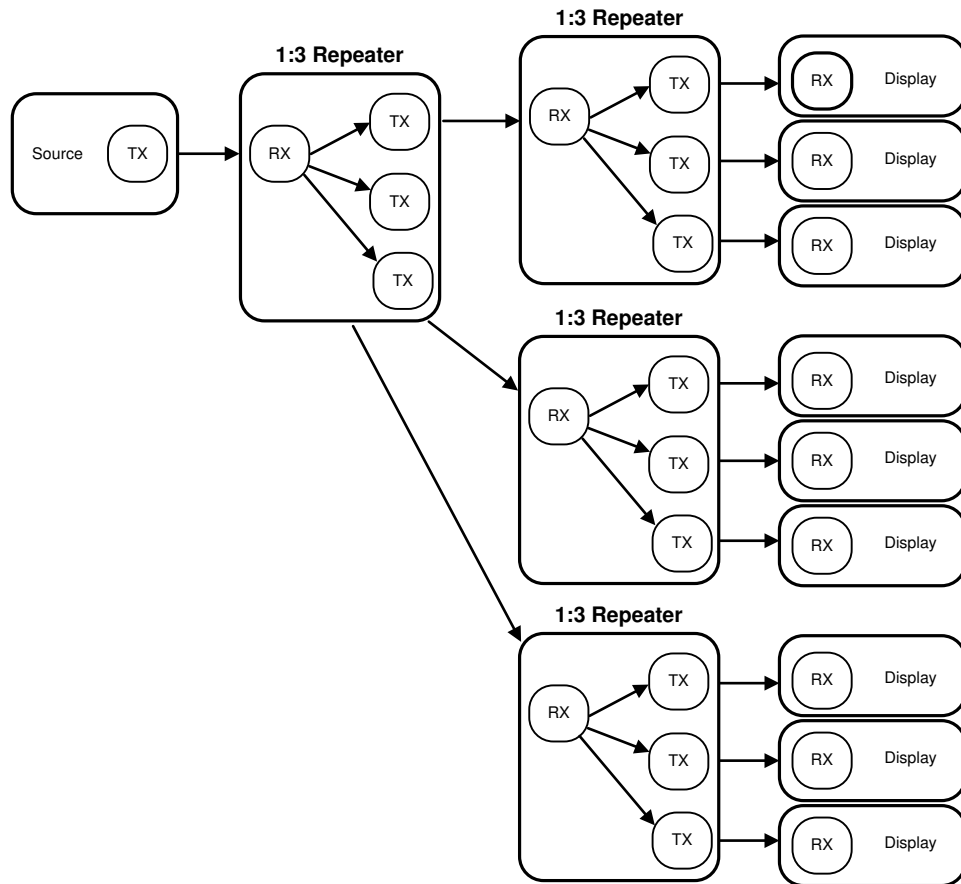

图 7-9. Maximum Repeater Application
In the repeater application, this document refers to the DS90UB947-Q1 serializer or as the transmitter (TX), and refers to the DS90UB948-Q1 as the Receiver (RX). 图 7-9 shows the maximum configuration supported for repeater implementations. Two levels of repeaters are supported with a maximum of three transmitters per receiver.